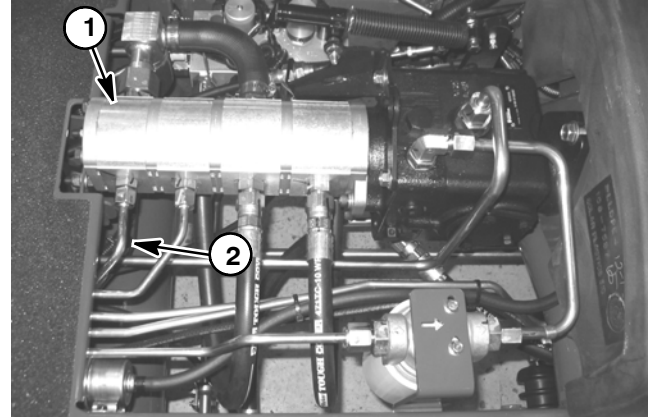

Figure 47
5. Thoroughly clean both ends of the hydraulic tube that connects gear pump (P4) outlet (Fig. 47) and lift control manifold P4 port. Remove hydraulic tube. Access to hydraulic tube at lift control manifold can be obtained from below the machine.